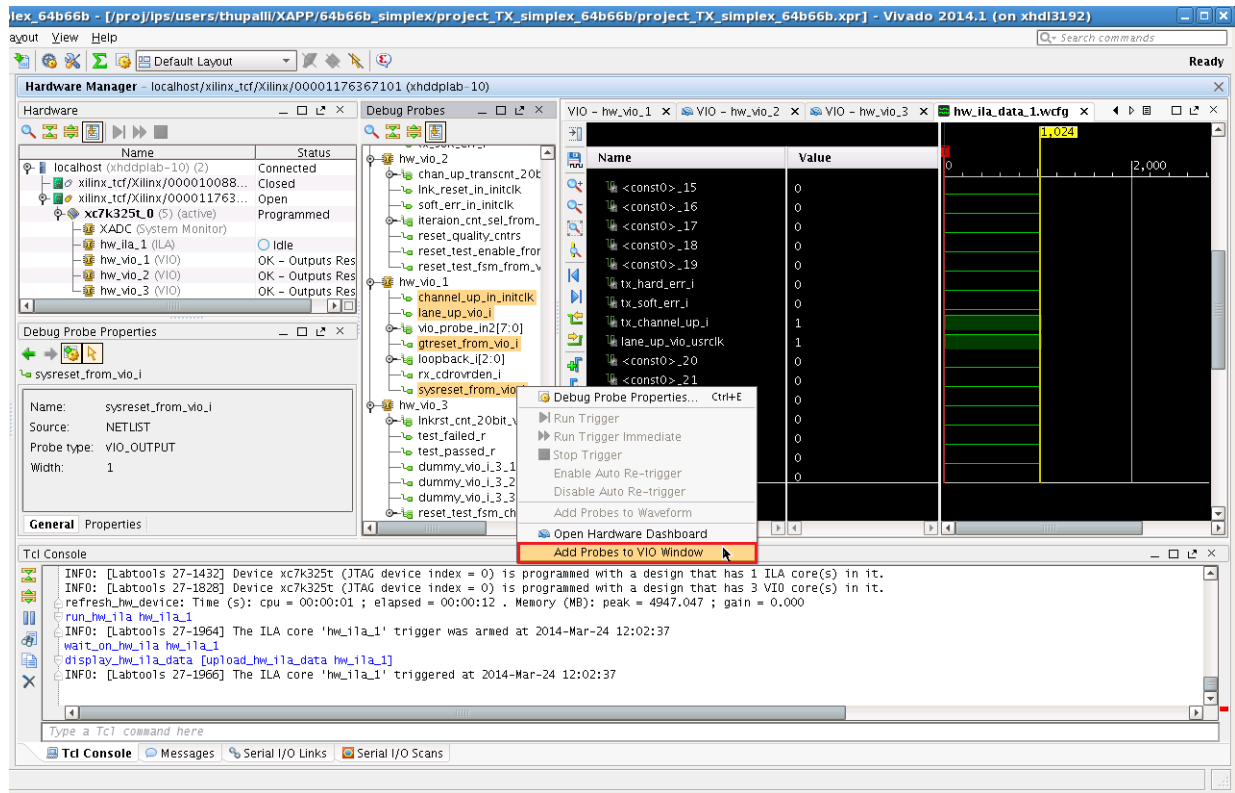

Figure 25: Add Probes to VIO Window
4. Right-click a highlighted signal and select **Add Probes to VIO Window** (Figure 25).